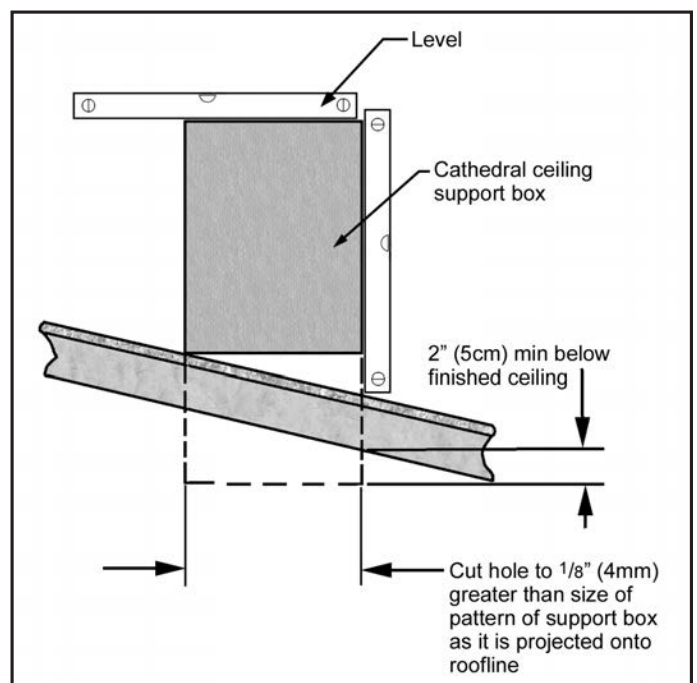

Figure 33: Cathedral Ceiling Support Box Leveling
4. Lower the "Support Box" through the hole in the roof until the bottom of the "Support Box" protrudes at least 2 inches (5 cm) below the ceiling. Align the "Support Box" both vertically and horizontally with a level as shown in Figure 33. Temporarily tack the "Support Box" in the place through the inside walls and into the roof sheathing.